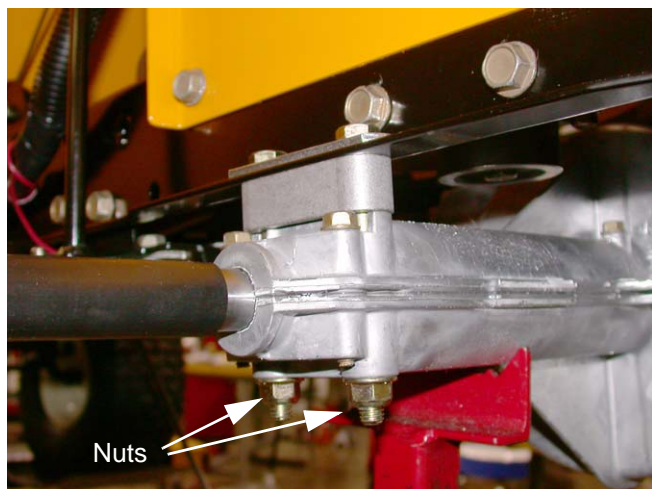

Figure 21.12
21.12. Using a 1/2" socket and 1/2" wrench, remove the four hex nuts securing the transmission to the frame. See Figure 21.12.